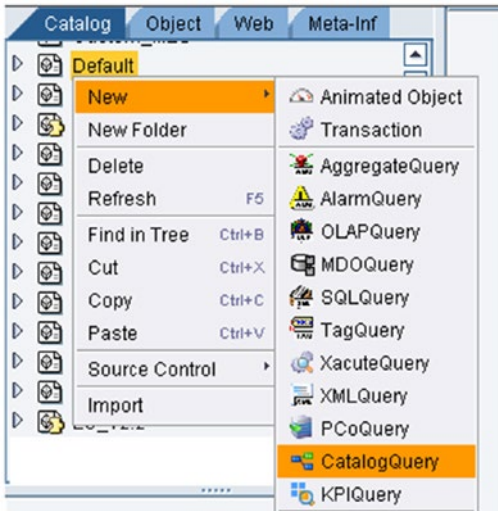

Figure 7-127. Selecting a Catalog query
3. Right-click on any folder and select New ► Catalog Query, as shown in Figure 7-127.